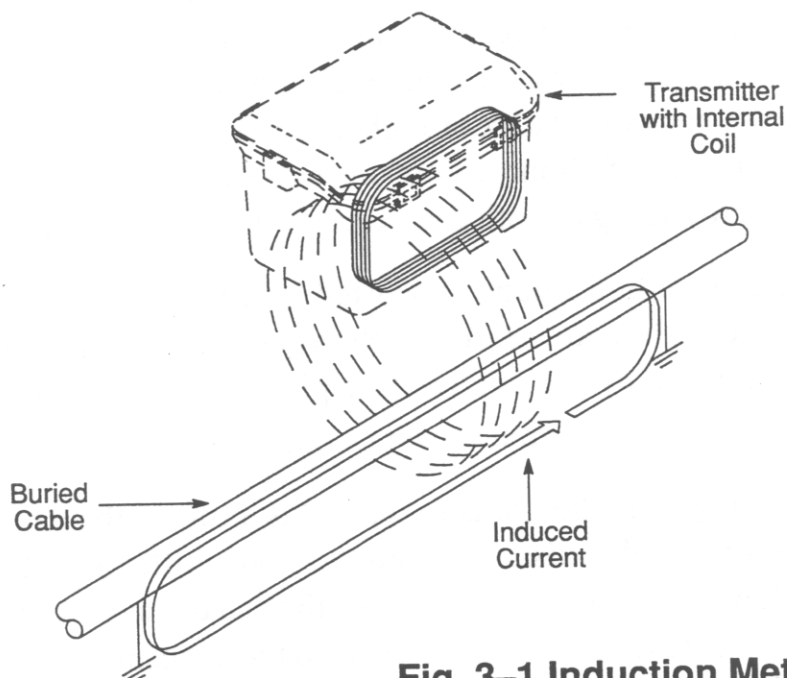

Fig. 3-1 Induction Method
1.6 For the best performance, place the Transmitter directly over the cable to be traced with the antenna coil parallel to it (refer to Fig. 3-1). Placement of the Transmitter five or ten feet to either side of the cable results in a highly attenuated induced signal.